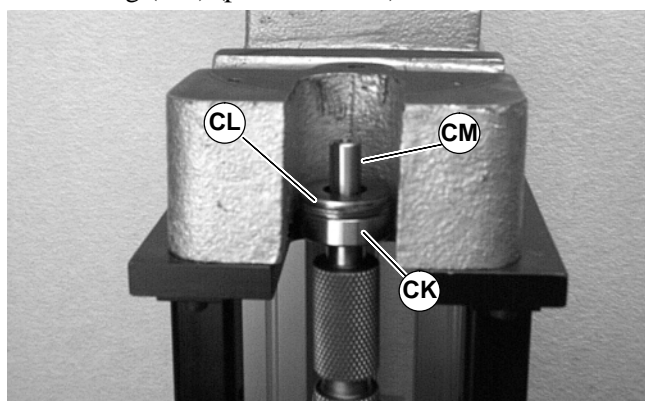

Figure 51
2. Place two (2) 5/8 flat washers, or equivalent (CL of Figure 51), over the pulley shaft (CM) and against bearing (CK) (part # 802-124).